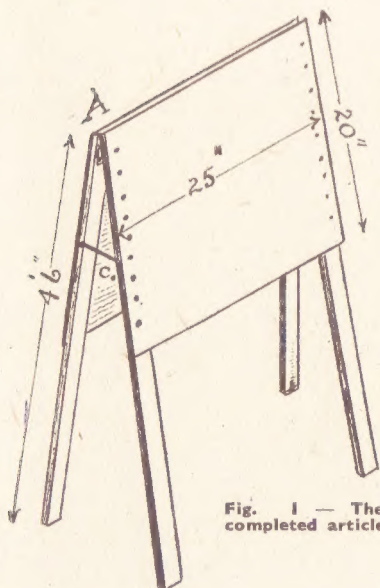

Fig. 1 — The completed article
You should begin by making the legs from the four battens. Mark these out, saw to required length, plane up the faces, and test them with the try-square. Then fix the two 1in. hinges in position to make two pairs of joined battens, as seen at (A) in the diagram. The perspective view in Fig. 1 shows how easily this can be done, whilst a detail of the hinge is given at Fig. 2.